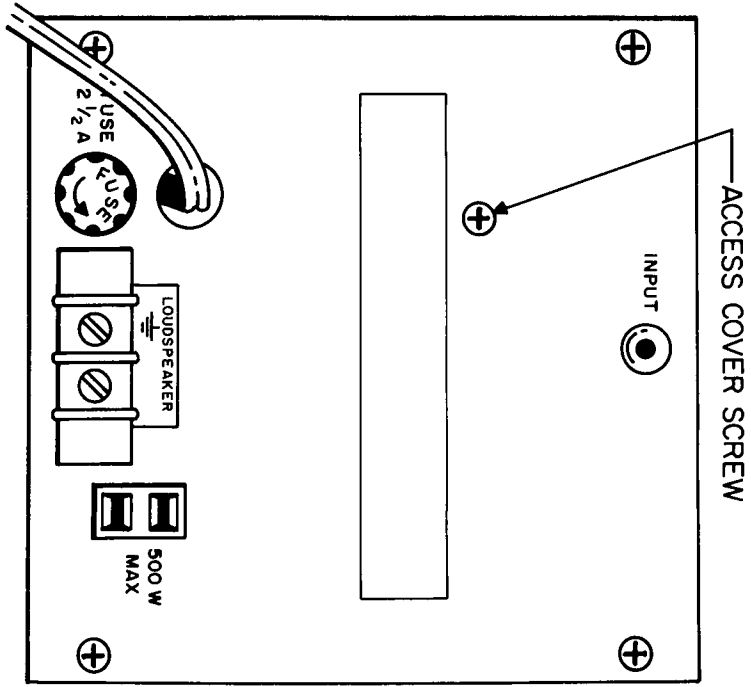

Figure 4. Location of D-C Balance Adjustment
10. If the meter indicates on-scale, but not at the zero center established in step no. 6, remove the access cover screw (See Figure 4) and adjust potentiometer R19, using a small, narrow-blade screwdriver, so that a zero center scale indication is obtained. This represents zero volts, dc.